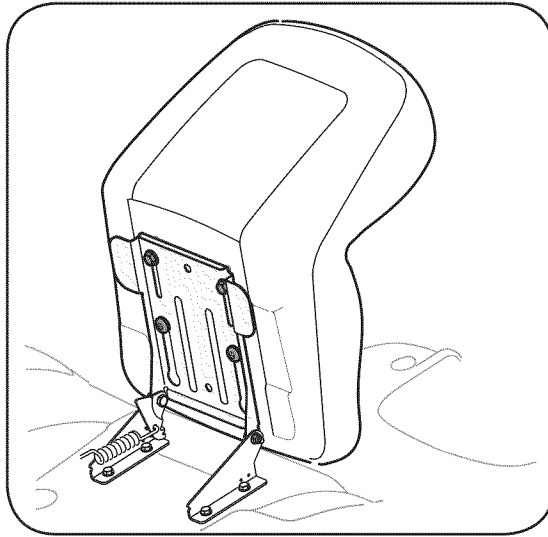
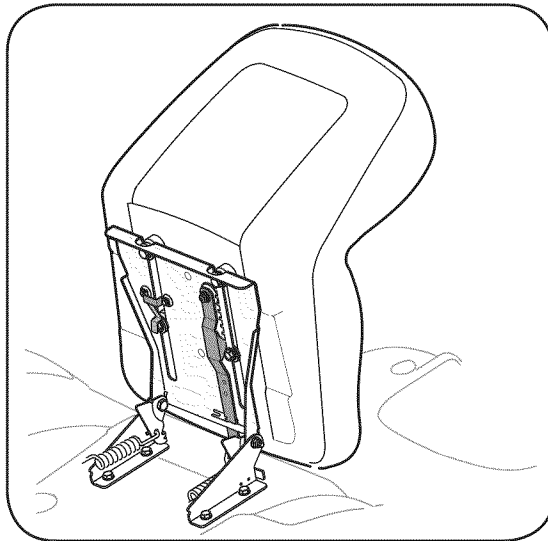
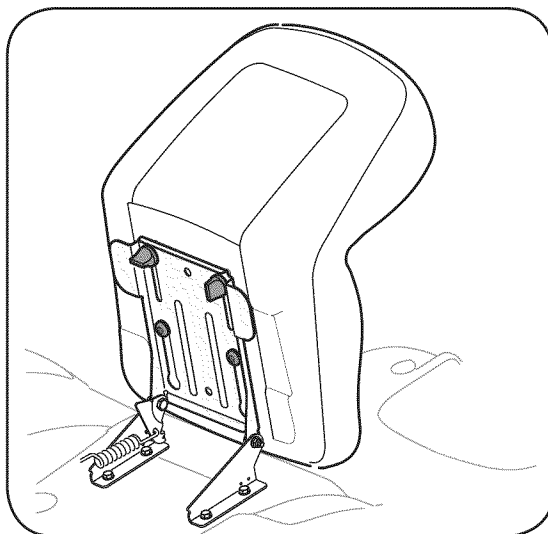

Figure 3-4
Figure 3-5
Figure 3-6
If the seat for your tractor did not come attached, refer to Fig. 3-4, Fig. 3-5, and Fig. 3-6 to identify your tractor's seat style and follow the applicable instructions below to attach it.
1. Position the shoulder screws (found on the base of the seat) inside the slot openings in the seat pivot bracket. See Fig. 3-4.
3. Select desired position for the seat, and secure with the two hex screws removed earlier. See Fig. 3-4.
NOTE: If your seat was shipped mounted backwards on the seat pivot bracket, pull out the tab found on the seat stop and hold it open while sliding the seat off the seat pivot bracket. See Fig. 3-5.
2. Slide seat in until front seat spacer engages the seat stop. See Fig. 3-5.
1. Position the shoulder screws (found on the base of the seat) inside the slot openings in the seat pivot bracket. Fig. 3-6.
3. Select desired position for the seat, and secure with the two knobs removed earlier. See Fig. 3-6.